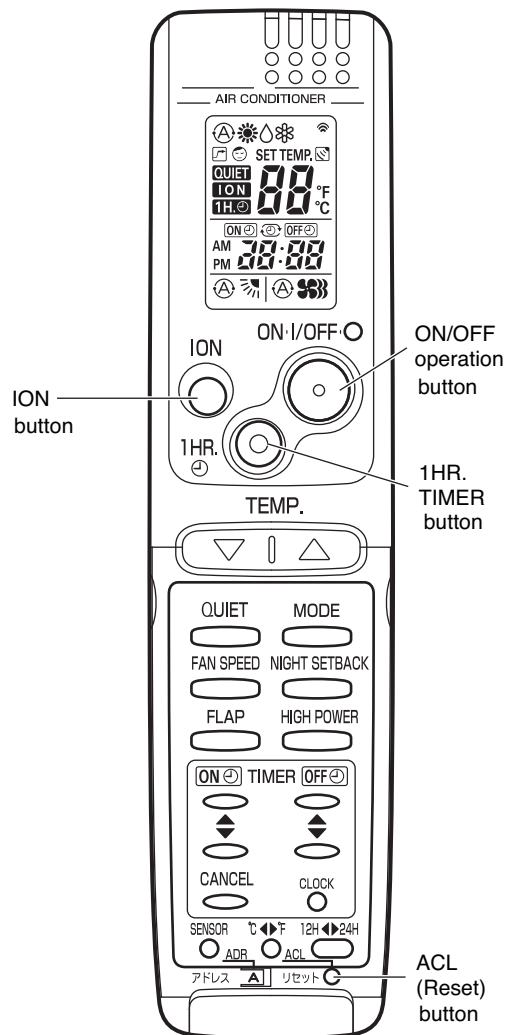

Fig. 59a
- (2) Start Cooling mode test run by pressing the ON/OFF operation button of the remote controller. (Fig. 59a)
- (3) Press the ON/OFF operation button of the remote controller again to stop the test run. (Fig. 59a)
- (4) Finally press the ACL (Reset) button of the remote controller to release it from Test Run mode to return to normal mode. (Fig. 59a)